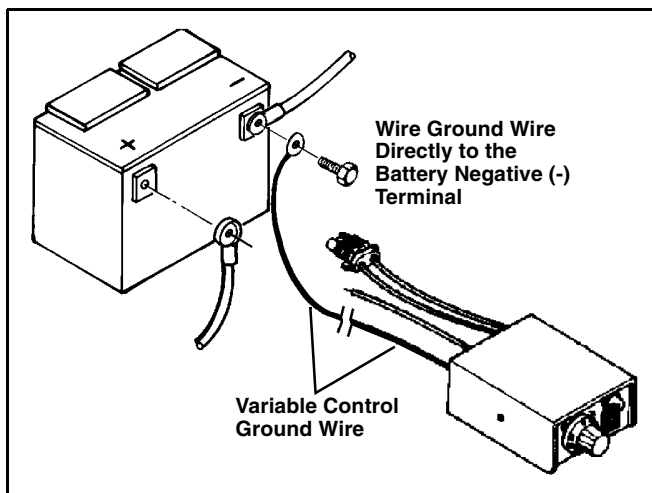

Figure 2-7
18. The variable control unit requires proper grounding for operation. If the ground is not maintained sufficiently the unit may fail prematurely. Very often chassis grounds are insufficient to maintain the proper ground required for the variable control. Directly route the ground wire from the variable control unit to the battery negative (-) terminal. (See Figure 2-7)